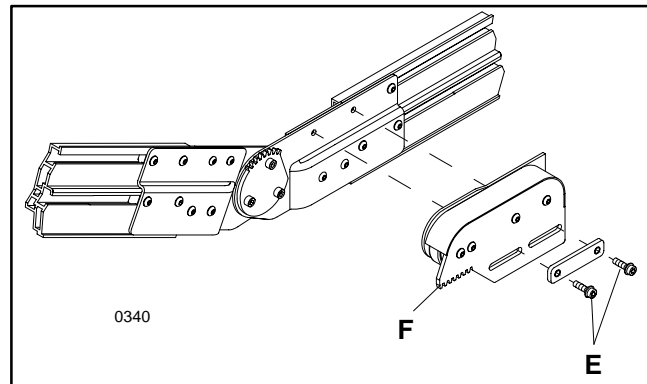
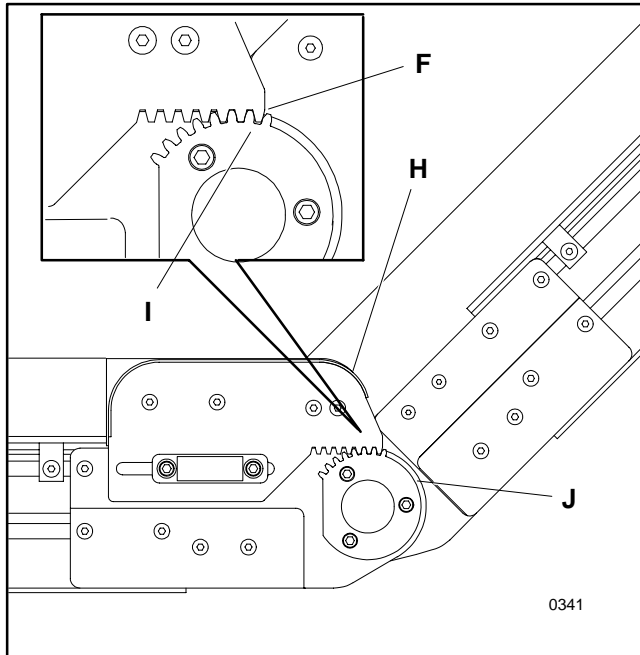

Figure 26: Horizontal to Incline Transition Guide Roller Assembly Removal Detail
Figure 27: Typical Standard Cleated Belt Conveyor Horizontal to Incline Transition Guide Roller Detail
1. Remove and retain the two (2) M6 x 20 mm socket head cap screws (E of Figure 26) from the top roller slide plate.
2. With the two M6 screws removed, the slide plate and top roller assembly (F) can be removed.
- a. Refer to Figure 27 and properly align the teeth of the slide plate rack with the aligning pockets of the pivot gear. When properly aligned, the endmost tooth (G) of the slide plate rack (H) will engage the first pocket (I) of the pivot gear (J), as shown
- c. Replace and re-secure the two (2) M6 x 20 mm socket head cap screws (E of Figure 26).